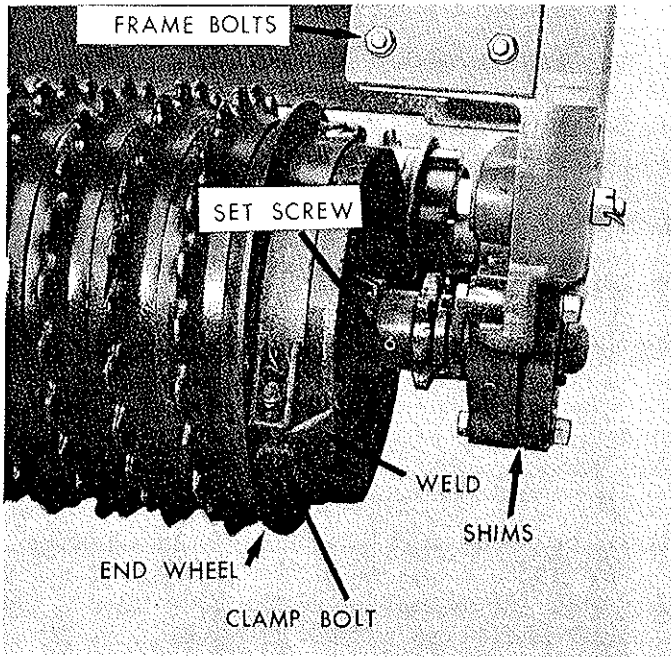

Figure 1
B. Assembling Wheels on Axles See Figure 1 and 2.